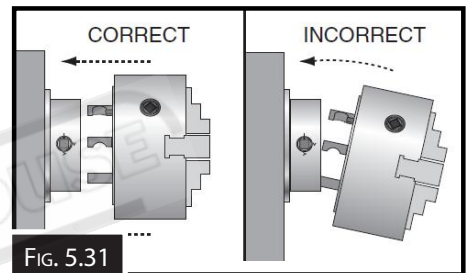

FIG. 5.31
**Note ! Avoid inserting the studs in from an angle or rotating the spindle. This can damage the studs or the cam holes. (Fig 5.31)**